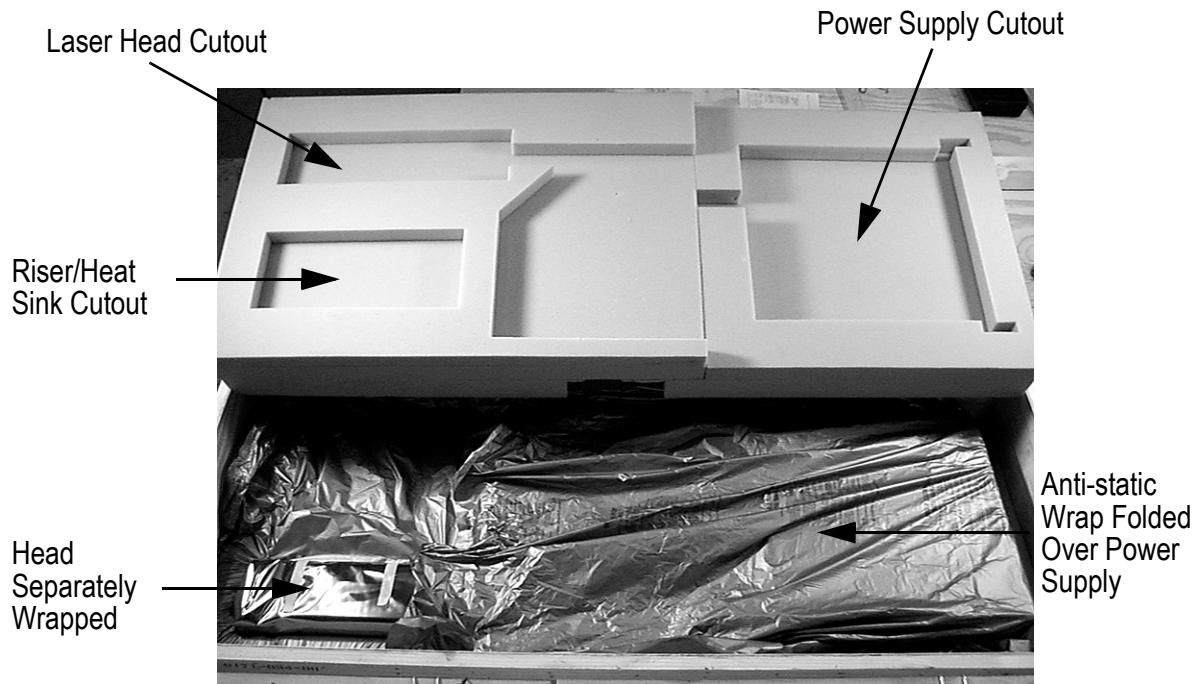

Figure A-2. Top Foam for Verdi V-8/V-10 Laser Shipping Crate
The Verdi V-8/V-10 laser systems crate consists of a single-molded foam compartment. Figure A-1 illustrates the proper placement of each of the components listed in Table A-1. To prevent ESD damage, the compartment should be lined with anti-static material before placing the laser head and power supply into the crate. Enough anti-static material should be used so the excess can be folded over to cover the top of the power supply after the crate is completely packed. See Figure A-2.
4. Position the top foam onto the crate as in Figure A-2.